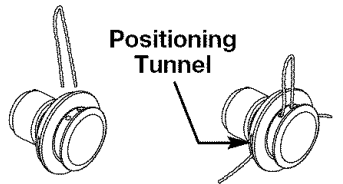

Fig. 11
4. Insert both ends of your line through the proper holes in the side of the cutting head (Fig. 11).